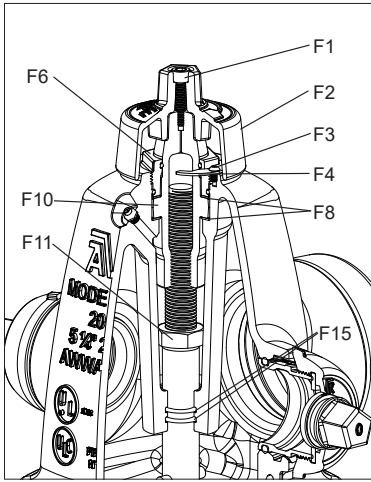

Fig. 7A
1. Remove the weathershield bolt (F1) with a 8 mm hexagon key. Lift off the weathershield (F2) (see fig. 7A).
3. Using the AVK operating wrench, or a large adjustable wrench, unscrew the thrust nut (F6) counterclockwise (see fig. 7A & 7B).
7. Place one anti friction washer (F8) on the top and bottom of the operating nut (F10) and thrust collar (see fig. 7A).
10. Place one anti friction washer (F8) on the top and bottom of the operating nut (F10) and the thrust collar (see fig. 7A).